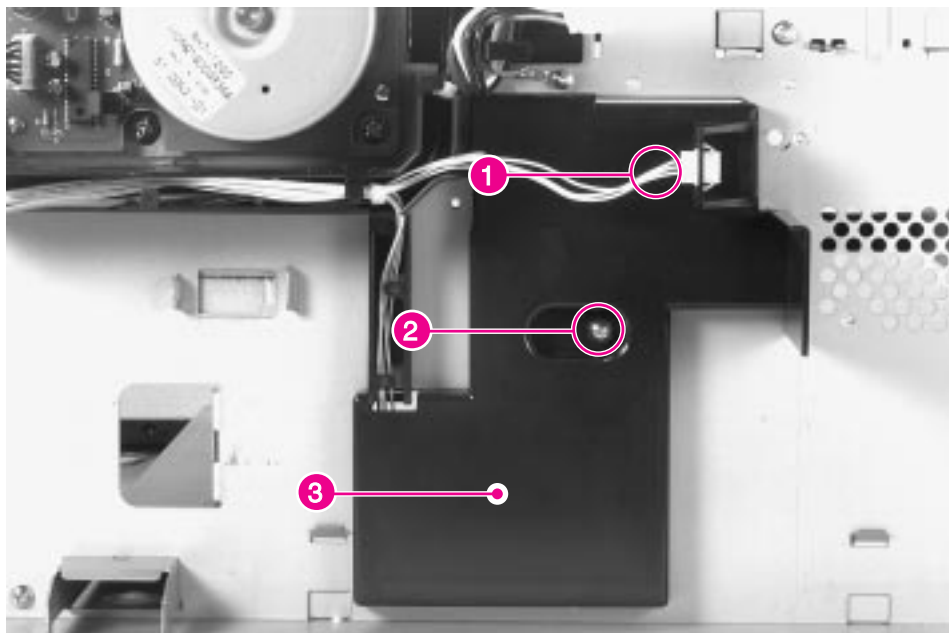

Figure 6-38 Paper Size PCA (1 of 3)
- 2 Unplug the fan cable from the left side of the connector (figure 6-38, callout 1), remove 1 screw (figure 6-38, callout 2), and remove the plastic shield (figure 6-38, callout 3).